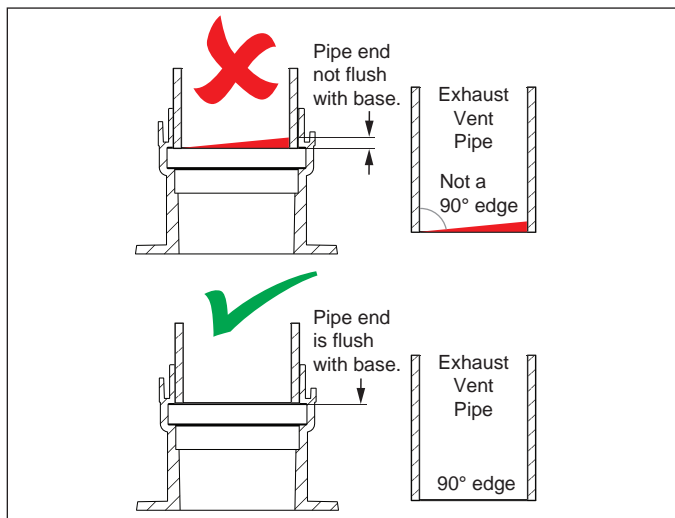

Figure 14 - Insert Straight Pipe
- 1** Insert 2 inch straight pipe into the exhaust/intake ports until fully seated (Figure 14). The pipes will insert at a minimum of 1.5 inches (38 mm).